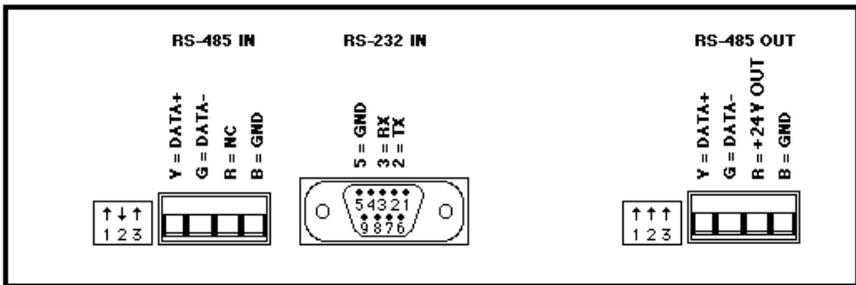

Figure 1A Connections for SCM9B-A1000.
The SCM9B-A1000 and SCM9B-A2000 have three connectors located on the rear panel, two RS-485 connectors and one RS-232 connector. The RS-485 connectors are 4 position screw-terminal plugs labelled RS-485 IN and RS-485 OUT. The RS-232 input connector is a female subminiature DB-9 connector labelled RS-232 IN. The functional description of each terminal is labelled directly above the connector on the rear panel. The RS-485 descriptions are all preceded by letters which correspond to the color coded wires used in standard telephone cable: (B) Black, (R) Red, (G) Green and (Y) Yellow. All DATAFORTH hardware using RS-485 contains this color coded nomenclature. Figures 1A & 1B show the rear panel connections for the SCM9B-A1000 & SCM9B-A2000.